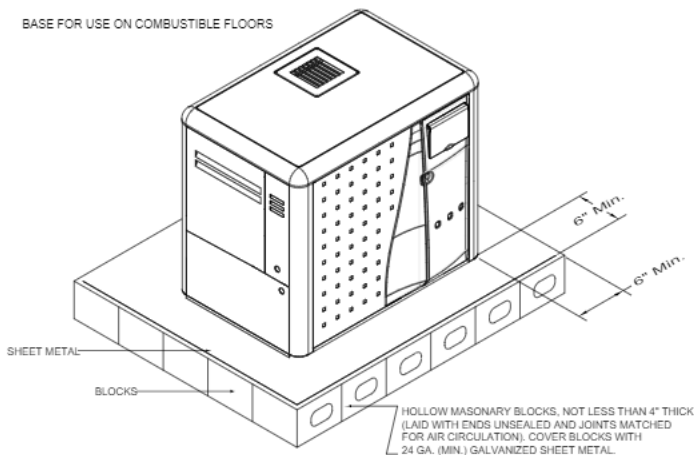

Figure 2.
- The heater must be installed on a non-combustible floor and at least six inches from any combustible material or wall. Construct a non-combustible base from masonry blocks as illustrated in Figure 2.